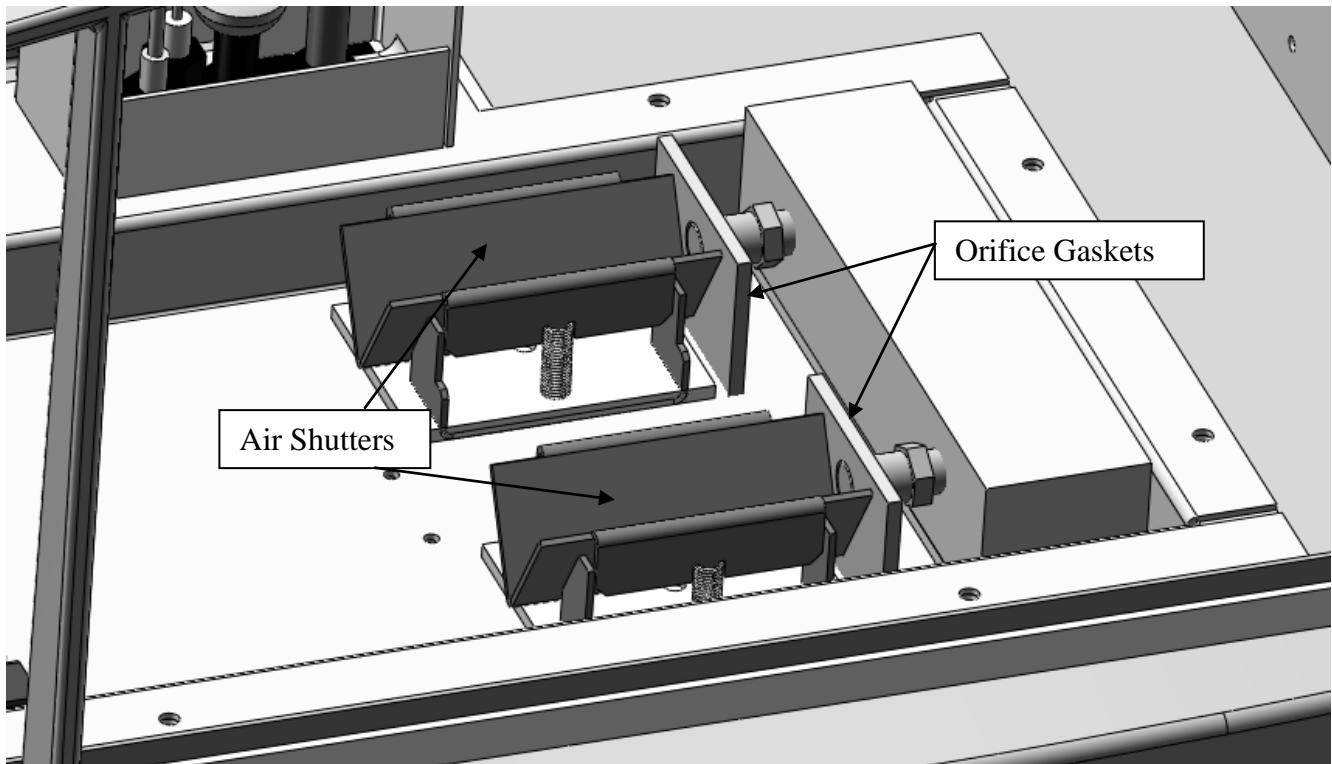

Figure 1 View of Bristol Firebox With Ember Bed Removed
1. Locate the two rectangular gaskets. Slide them over the tip of the two orifices inside the firebox as shown in **figure 1**. Be sure the gasket material is on the orifice and it covers the end of the "V" shaped air shutter.